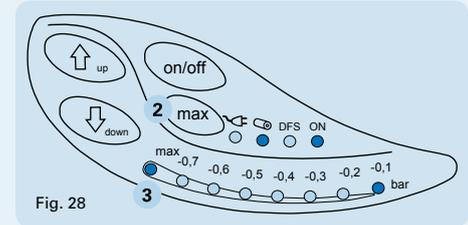

Fig. 28
- If you require the maximum value quickly, press the 'max' button (fig. 28(2)). You can also set the maximum vacuum by pressing the 'up' button several times.
- Preselection of the maximum vacuum is signalized via a red LED for 2 seconds (fig. 28(3)).